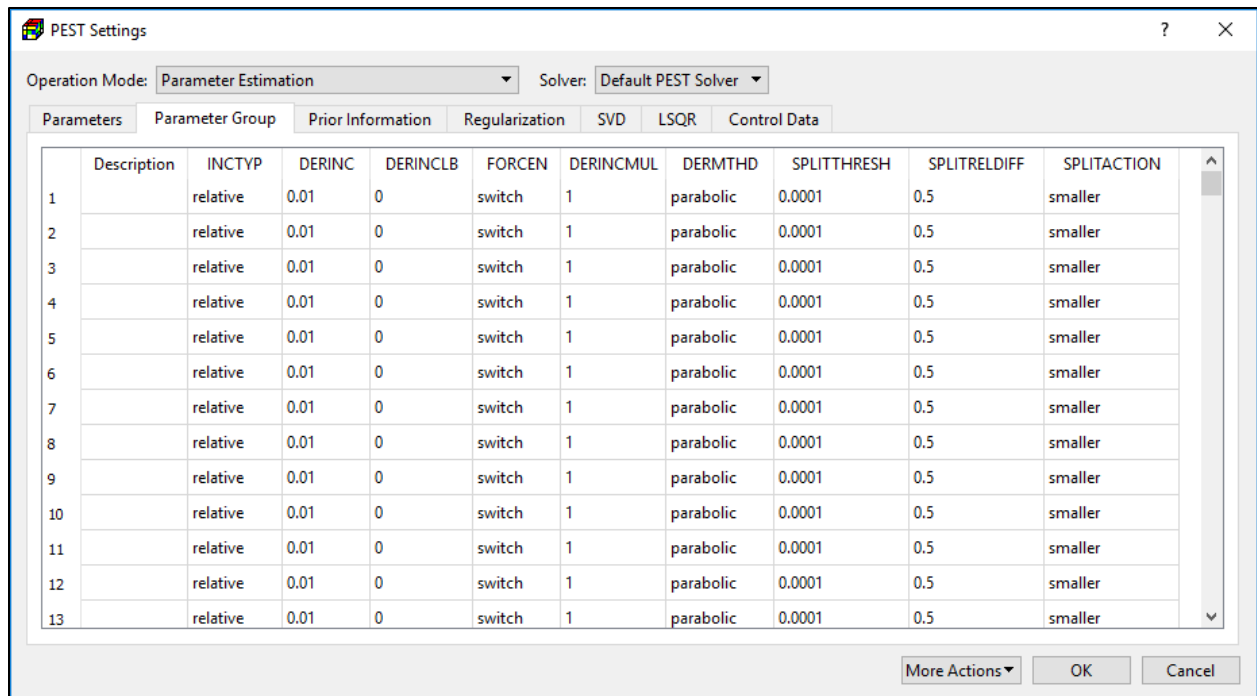

Figure 109. The Parameter Group tab of the PEST Settings dialog box
5. Parameter Group Tab (Figure 109): In PEST, the input variables that define how derivatives are calculated pertain to parameter groups rather than to individual parameters. Thus, derivative data do not need to be entered individually for each parameter; however, if you wish, you can define a group for every parameter and set the derivative variables for each parameter separately.